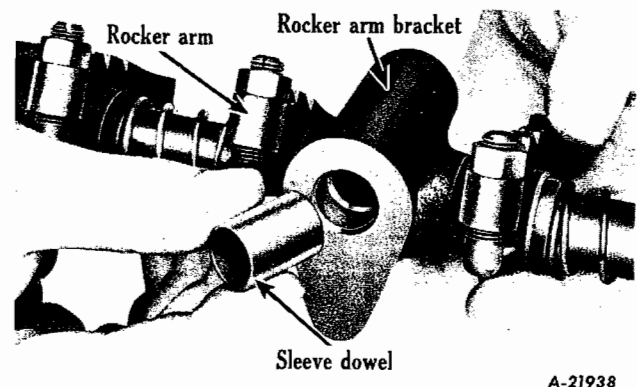

Fig. 9 - Details of sleeve dowel located in bracket.
4. The three hold-down brackets are reamed, from the bottom side (Fig. 9) so that the sleeve dowels will fit .0005"-.0035" tight in brackets. About one-half inch of dowel is in the bracket. The remaining half of dowel is fitted .0025"-.0055" loose in the head. When removing rocker-arm assembly the dowels will remain in hold-down brackets.